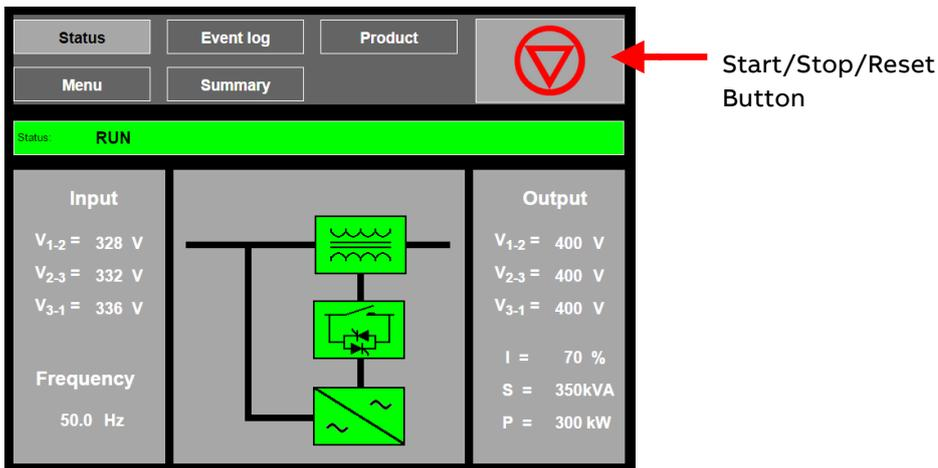

Figure 7-1: GDM Status Page
The Start (I) / Stop (O) /Reset button in the Navigation & Control Panel allows GDM control of the PCS100 AVC-20. When the PCS100 AVC-20 is stopped (Bypass) a green Start (I) button will show, and when running (RUN) a red Stop (O) button will show. Pressing the Start (I)/ Stop (O)/ Reset button followed by YES in the following confirmation screen will cause that action to be taken. Figure 7-1: GDM Status Page shows the status page when the PCS100 AVC-20 is running.